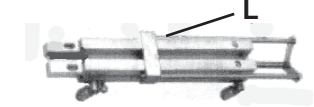

Figure 9
- Operate the **Toggle Switch (F)** on the front panel, Page 5, to retract the **Loader**, Figure 9. Slide the **Compensator** labelled 10mm (**K**) into the **Nail** path with the pin in the **Compensator** facing downward and the notch forward. Press down on the rear of the **Compensator** after it is fully inserted and it will lock in